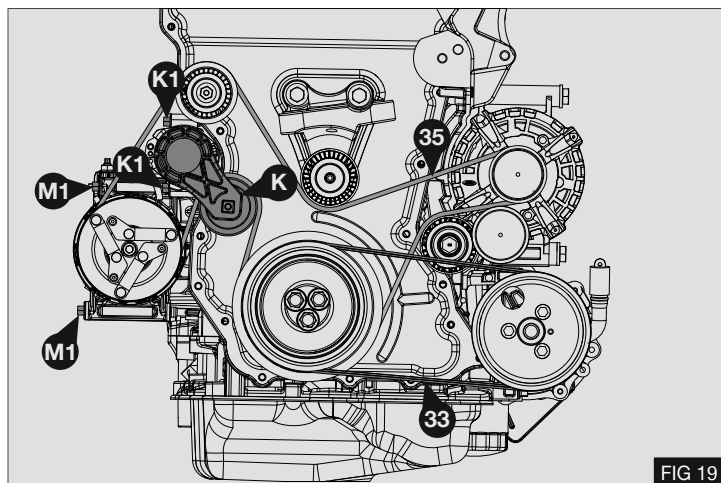

FIG 19
- Install drive belt (35) - Fig 19
- Release automatic belt tensioner (K) - Fig 19
- Fit PAS belt (33) - Fig 19